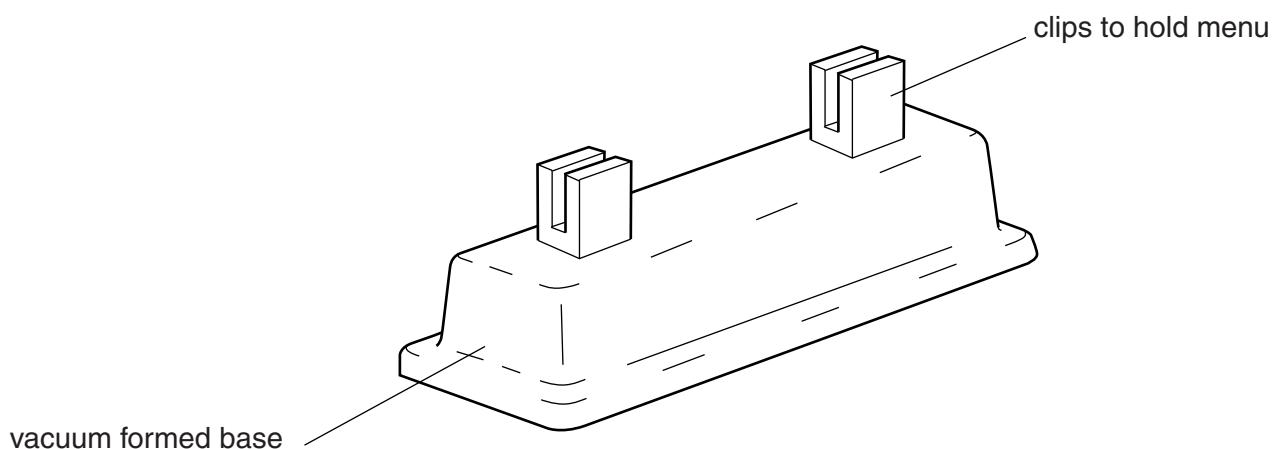
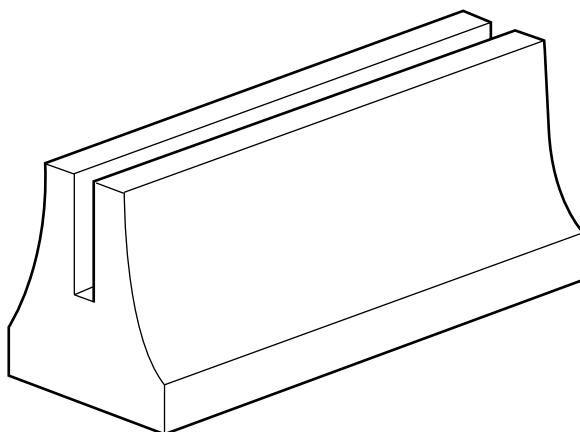

Fig. 5
Fig. 7
- 18 Fig. 5 shows a menu holder with a vacuum formed plastic base.
- (a) Complete the list below to give the stages needed to vacuum form the base shown in Fig. 5.
- (d) Fig. 7 shows another menu holder, also made of a thermoplastic material.
- (i) Give **three** benefits to a manufacturer of producing the menu holder shown in Fig. 7 rather than the one shown in Fig. 5.
- (ii) Name **one** industrial process that could be used for high-volume production of the menu holder shown in Fig. 7.